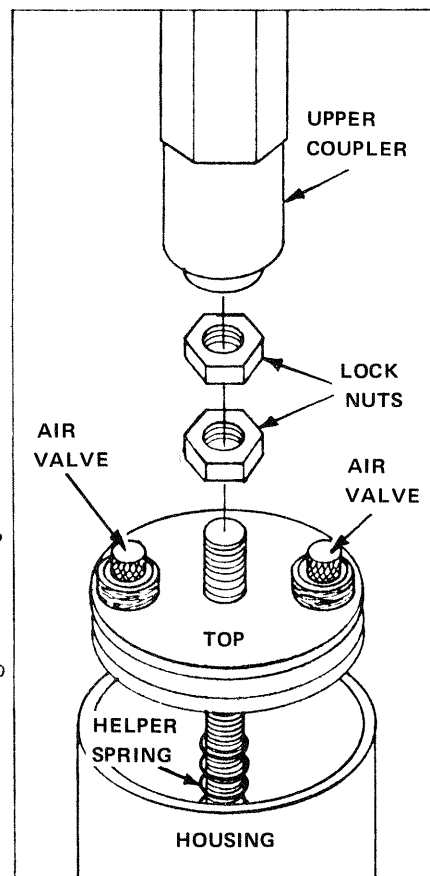

FIGURE 9-44 Dashpot disassembly.
- L. Remove the Solenoid assembly from the piano, disassemble the Dashpot, and remove the Helper Spring from the Dashpot, THIS IS DONE TO DECREASE THE THRUST OF THE SOLENOID. (See FIGURE 9-44). Reassemble the Dashpot, install the Solenoid assembly in the piano, and repeat STEP 9-66. Plug the Power Cord into the Ground Fault Circuit Interrupter, turn the Interlock and ① POWER Switches ON, and repeat STEP 9-69 to align the Solenoid. Proceed to Point 'M'.
- M. If the Solenoid is noisy when it releases-- the internal resistance of the Dashpot is too low. To adjust the Dashpot, tighten either or both (if necessary) of the Air Valves on top of the Dashpot, (See FIGURE 9-44) until the noise stops. (REFER TO THE NOTE below). Proceed to Point 'N'.